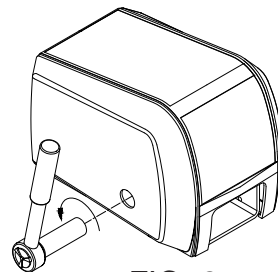

FIG. 2
- Insert the 5/8" socket and ratchet handle so that it completely engages with the drive shaft. **Turn the drive shaft in the counterclockwise direction only.** (See Fig. 2)